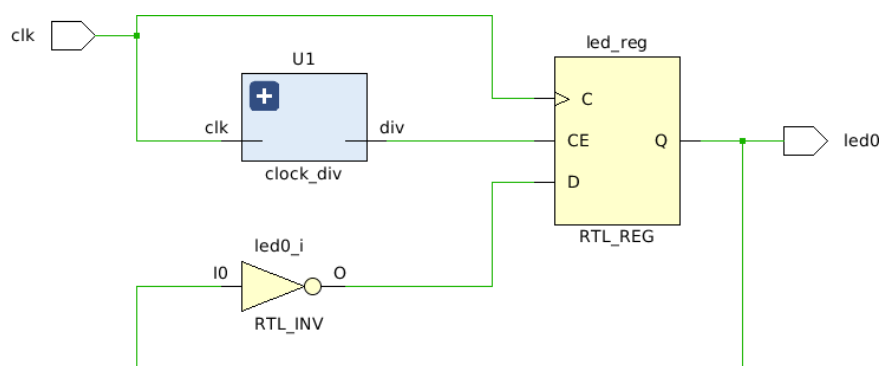

Figure 1.3: `divider_top` block diagram
- Create a top-level design called “`divider_top`”. Instantiate `clock_div` and use its output (`div`) to control a signal inversion process. When `div` is high and the clock is on it’s rising edge, invert a signal whose output drives `led0`. If done correctly, the resulting elaboration schematic of `divider_top` should be similar to that of figure 1.3, where `div` drives the enable port of a DFF, whose input is the inversion of its output. Visually confirm the 2 Hz operation speed by loading it onto the Zybo.